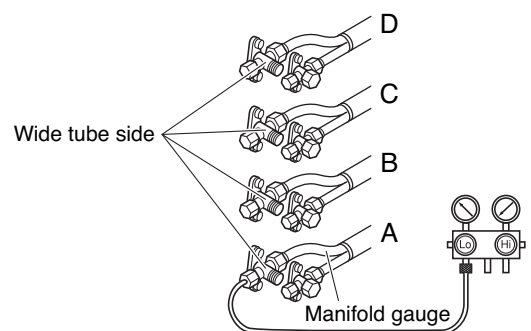

Fig. 23
- (2) Connect the manifold gauge to the charging port at the valve on the wide tube side of tube D. Purge the air from the charging hose. (Refer to Fig. 23.)
- (3) Perform cooling operation or forced cooling operation. When the pressure at the low-pressure side is 0.15 – 0.2 MPa (0.5 – 1 kg/cm²G), fully close the spindles at the valves on the wide tube side of tubes A, B, C, and D, and immediately stop operation. (Refer to Fig. 23.)